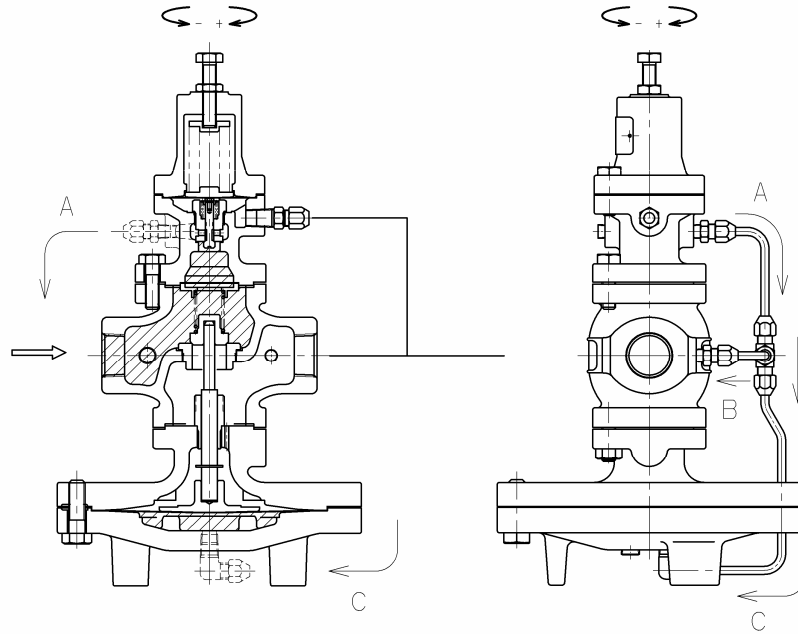

Fig. 2
- (2) Turning adjusting screw [27] clockwise compresses the spring, which flexes pilot diaphragm [23] to open the pilot valve. The fluid passing through pilot valve [17] and pilot valve seat [18] enters the main diaphragm chamber via pipes A [34] and C [36]. This fluid also flows to the reduced side of the body [1] through pipe B [35] and the orifice of joint B [31] that connects to the body. (**Fig. 2**)